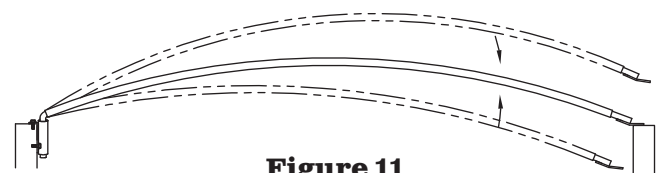

**Figure 9**
- 3) See Figures 9 & 10. Determine bow length of other bows and cut